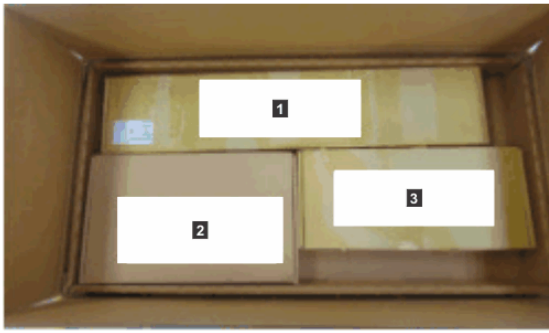

Figure 16. Tray containing expansion enclosure parts
The 5U expansion enclosure and most parts are shipped together in one large box. A tray on the top of the enclosure contains the front fascia (1U and 4U pieces), the cable management arm (CMA), and the slide rail kit; you must install these parts. Figure 16 on page 38 shows how the enclosure is packaged for shipment.
6. Remove the support rail kit from the box in which it was shipped (1), as shown in Figure 16 on page 38.
17. Remove the cable management arm assembly from its packaging (**2** in Figure 16 on page 38).